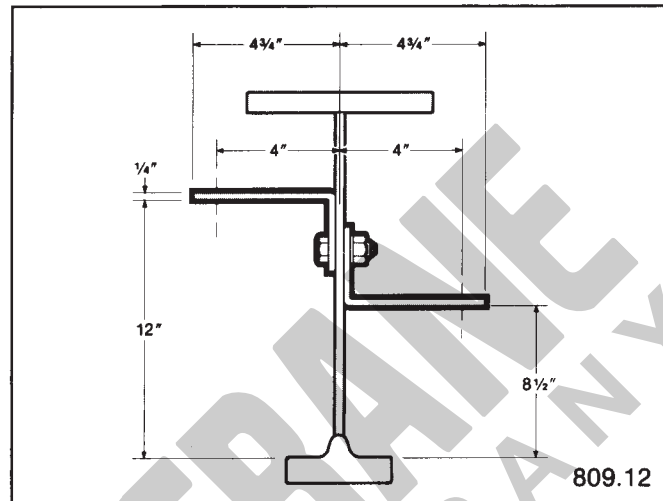

FIGURE 33
- 809.12 (Refer to Figure 33): For 4-wire (2-run) dual conductor bottom-entry electrification at 8½" above operating flange surface of 12" depth 604 *SuperTrack™ Girder* or 605 *TrojanTrack™ Girder*. On girder depths of 14" or greater, electrification can be either 8½" or 12" above operating flange surface.